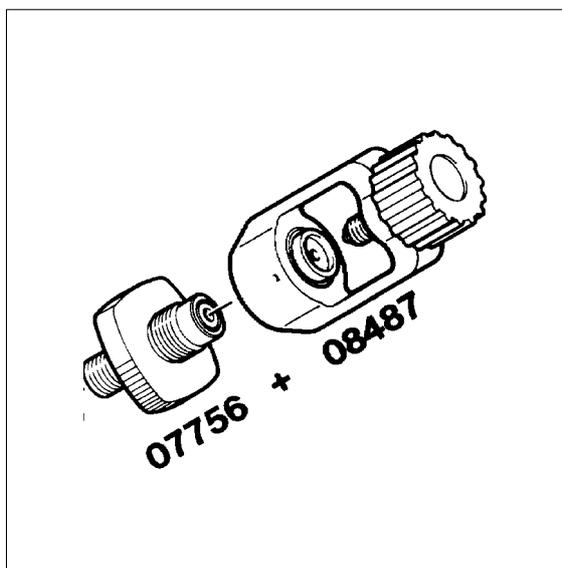

Fig. 23 International filling connector
- Air bottles with international filling connector can be connected with filling adaptor (Part no. 08487-635) to the German filling connector (see Fig. 23).